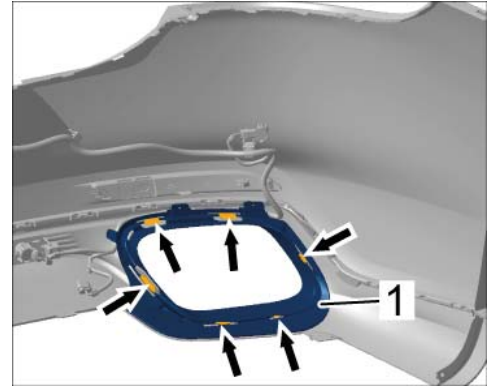

Figure 8
- 2.4.1 Clip new trim frame for tailpipe cover (at the left/right) into new rear skirt (⇒ *Figure 8*). ⇒ *Workshop Manual '637019 Removing and installing trim frame for tailpipe cover'*